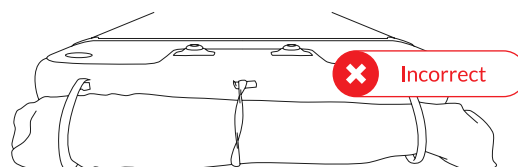

Fig 55 - Do not twist Air Toggle loop
2. Ensure all the Air Toggle loops are flat and not twisted (Fig 55)